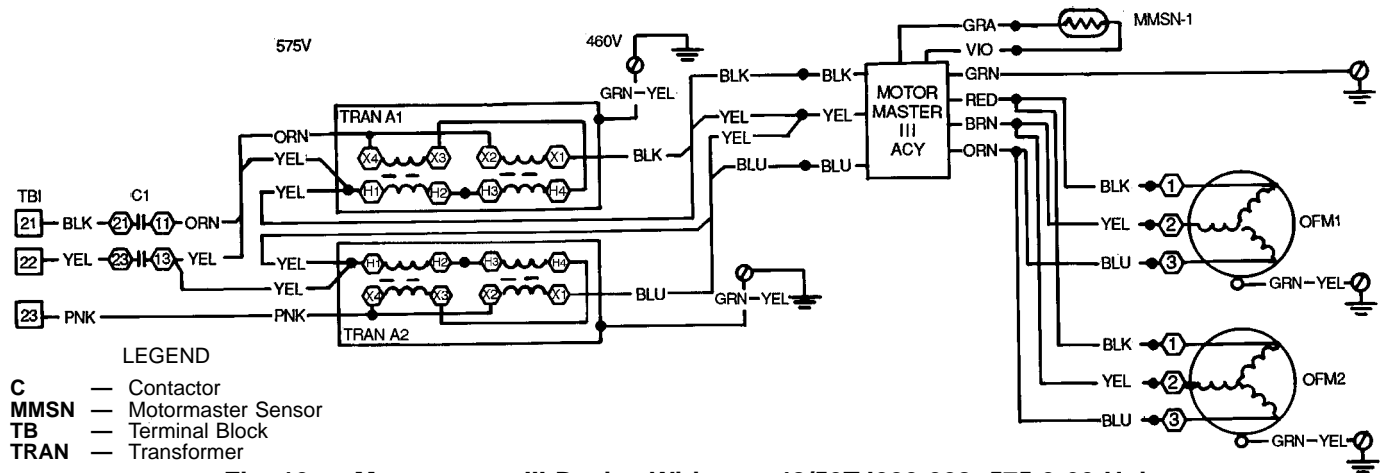

Fig. 10 — Motormaster III Device Wiring — 48/50TJ020-028, 575-3-60 Units
3. Connect a field-supplied wire (shown as orange in Fig. 10) from C1 terminal 11 to TRAN-A1 terminal X4.
4. Connect a field-supplied wire (shown as yellow in Fig. 10) from C1 terminal 13 to TRAN-A1 terminal H1 and another wire (also shown as yellow in Fig. 10) from C1 terminal 13 to TRAN-A2 terminal H1.
5. Connect a field-supplied wire (shown as pink in Fig. 10) from TB1 terminal 23 to TRAN-A2 terminal X4.
6. Connect a field-supplied wire (shown as black in Fig. 10) from TRAN-A1 terminal X1 to MMIII control black lead.
7. Connect a field-supplied wire (shown as yellow in Fig. 10) from TRAN-A1 terminal H1 to the yellow lead of the MMIII control along with a field-supplied wire from TRAN-A2 terminal H1 (also shown as yellow in Fig. 10).
8. Connect a field-supplied wire (shown as blue in Fig. 10) from TRAN-A2 terminal X1 to the blue lead from MMIII control.
11. Connect (splice) the black wires from OFM1 and OFM2 to the red wire of the MMIII control. See Fig. 10.
12. Connect (splice) the yellow wires from OFM1 and OFM2 to the brown wire of the MMIII control. See Fig. 10.
13. Connect (splice) the blue wires from OFM1 and OFM2 to the orange wire of the MMIII control. See Fig. 10.